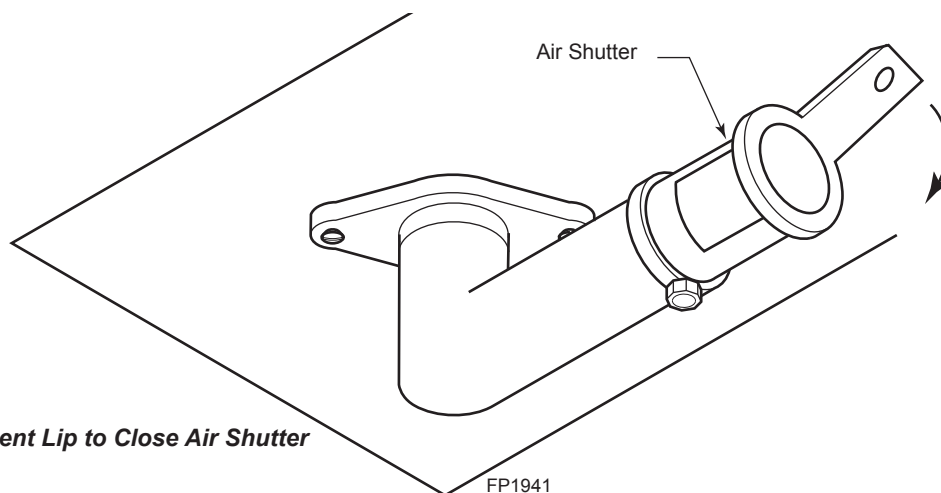

Figure 31 - Pull Adjustment Lip to Close Air Shutter
- To decrease air mixture, close the shutter. Flames will be more yellow. *Figure 31*